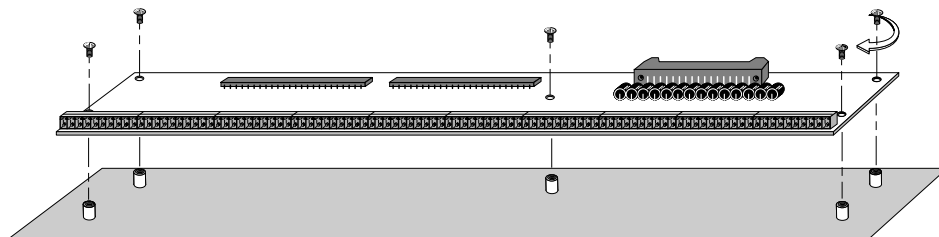

Figure B-6 — Mounting the audio board
4. Secure the audio module to the five standoffs on the floor of the switcher (figure B-6).